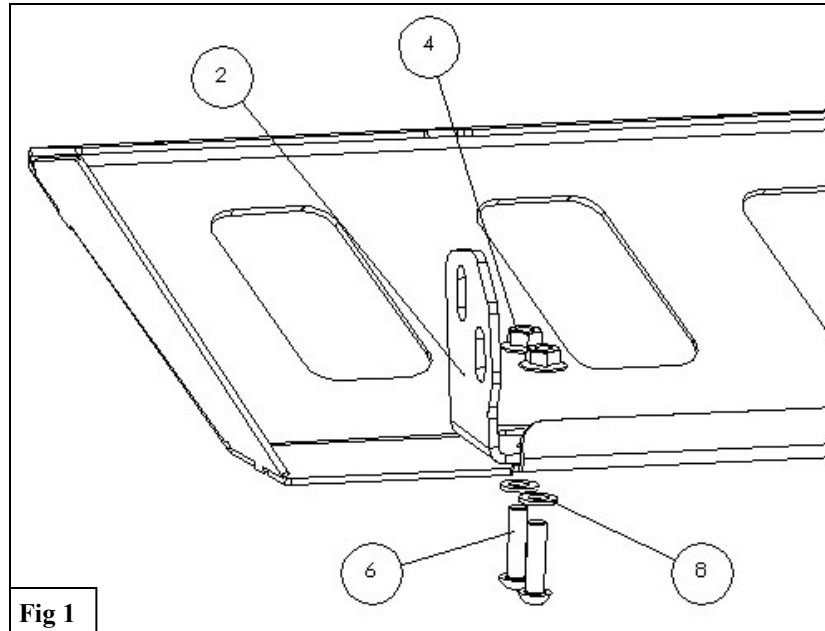

Fig 1
2. Obtain the Skid Plate Mounting Brackets (2) along with the supplied M8 Hardware (3-12).
3. Secure the Skid Plate Mounting Brackets (2) to the Skid Plate Assembly (1) as shown in **Figure 1**.